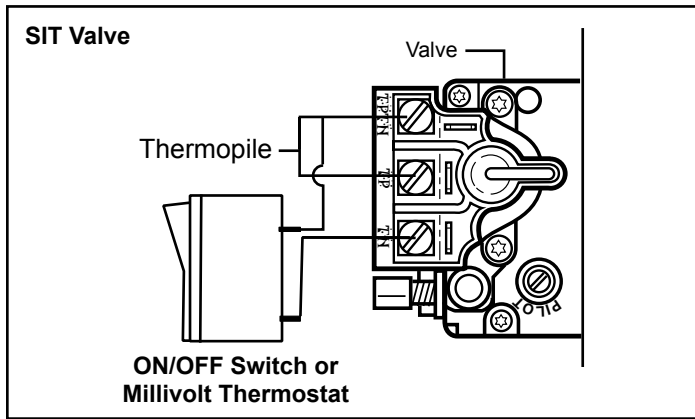

Fig. 16 - Install wiring to switch before connecting to valve.
3. Attach wires to valve terminals. (Fig. 16)
2. Connect the thermostat wires to the valve. (Fig. 16)